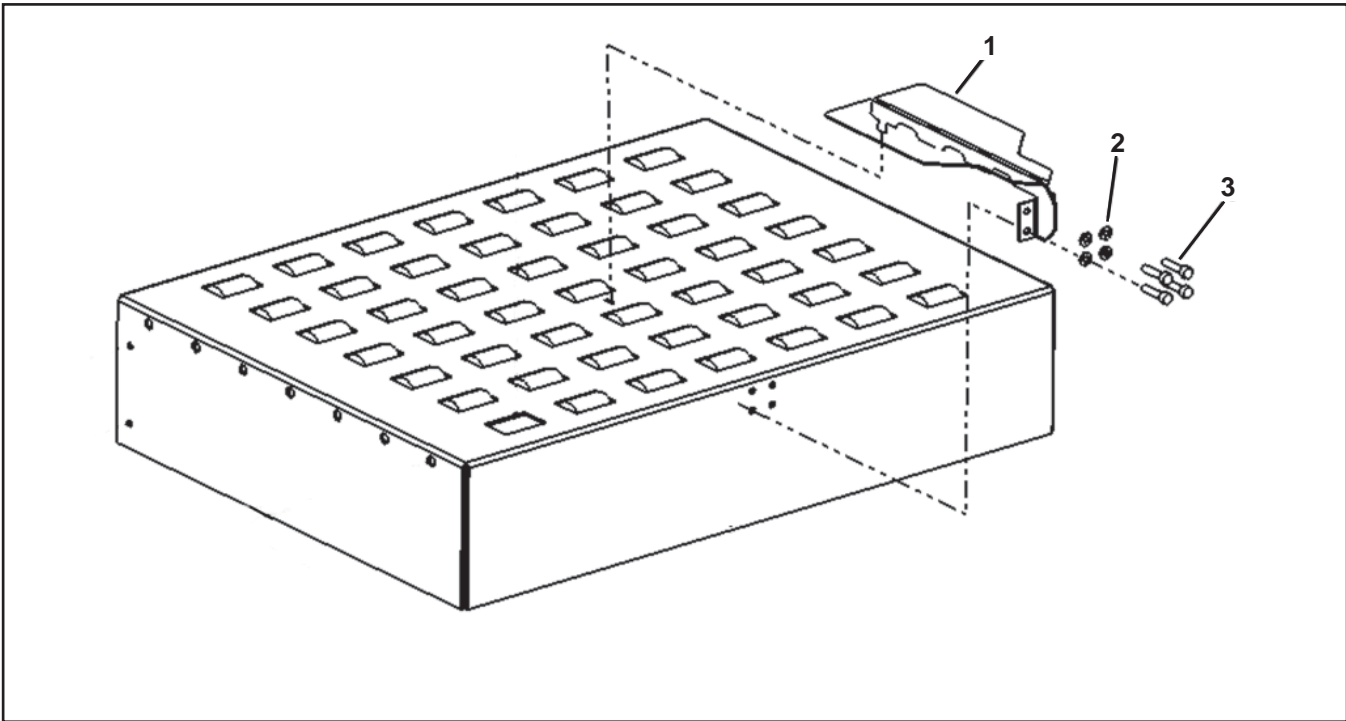

Figure 2—Installation/Parts Illustration
1. Place the box holder over the infeed conveyor platform and insert the tab in the in box holder into the slot in the infeed conveyor extension as shown in Figure 2.
2. Using a 8mm open end/box wrench, secure the box holder to the holes in the end of the infeed conveyor extension with the four (4) M5 x 10 socket head cap screws and four (4) M5 flat washers.